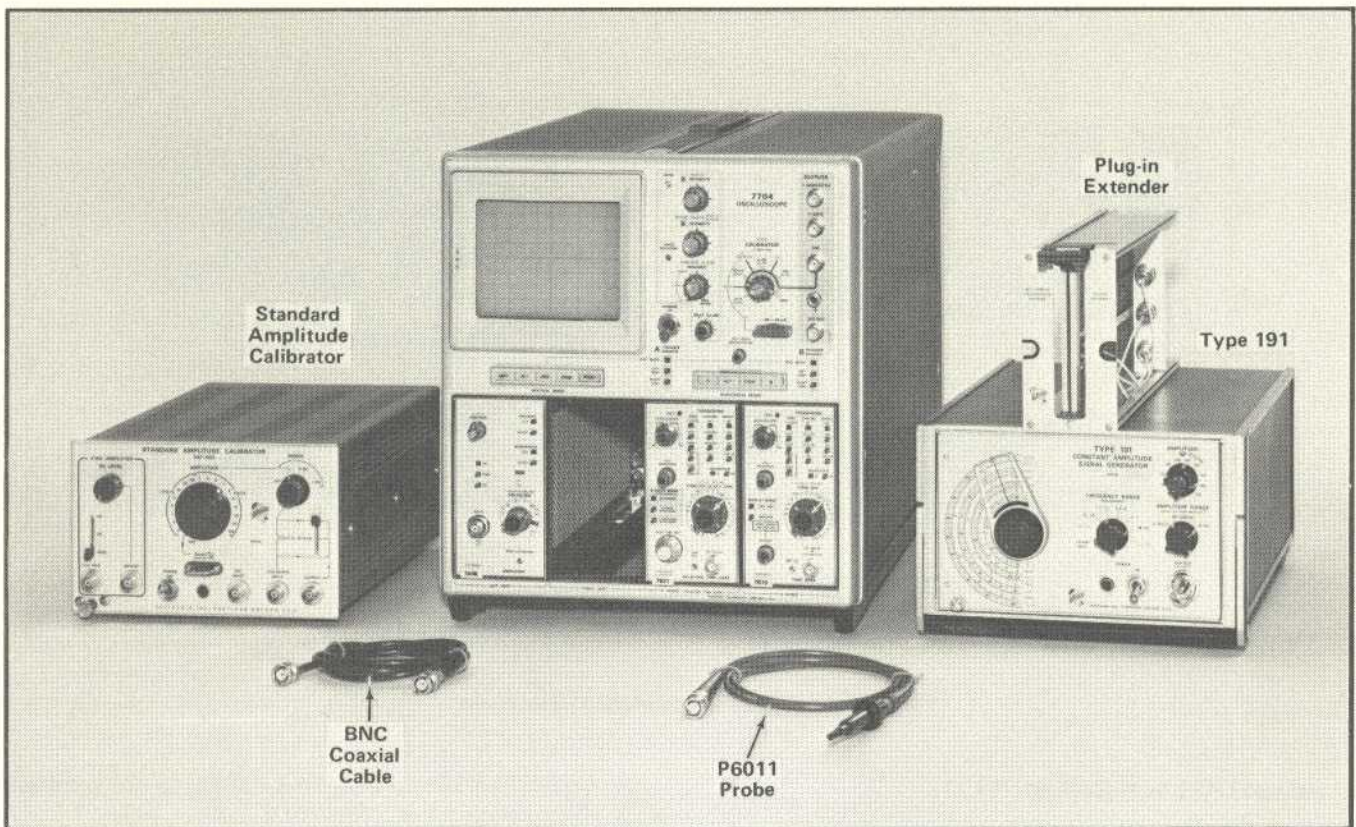

Fig. 5-1. Test equipment required for steps 1 through 11.
1. Adjust Upper Position Slope P-P AUTO Level (R251) ❶
a. Test equipment required is shown in Fig. 5-1.